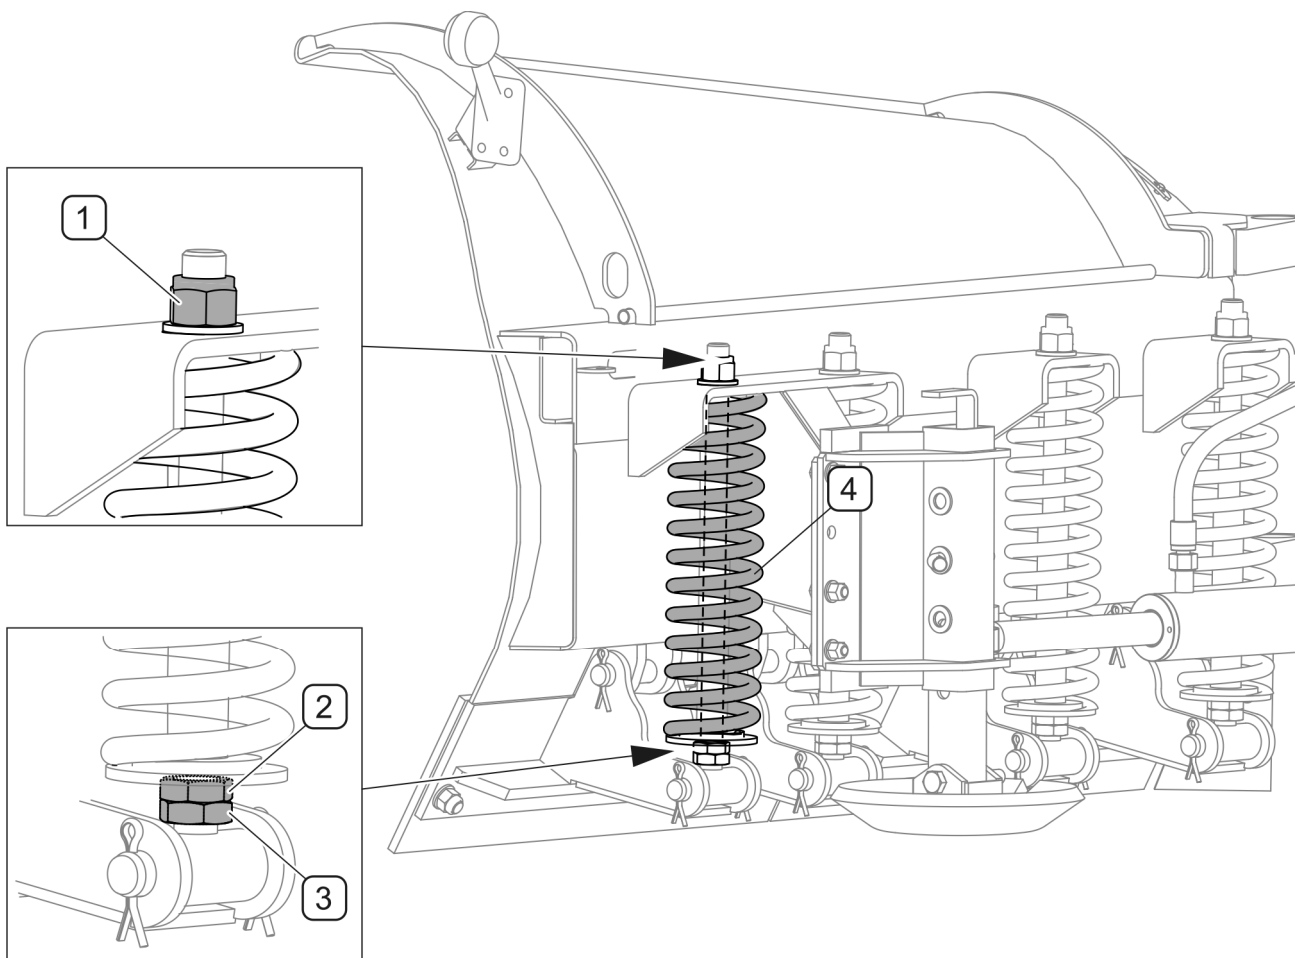

FIGURE 5.5 Adjustment of collecting blades
The snow plough is equipped with swinging segments of collecting blades. When an obstacle is encountered, individual segments of collecting blades (FIGURE 5.5) can independently swing backward and return to working position thanks to shock absorbing springs. Inclination of blades and tension of springs can be adjusted. Blade segment inclination angle is adjusted using nut (1) while spring (4) tension can be adjusted using nut (2) after loosening counter nut (3).